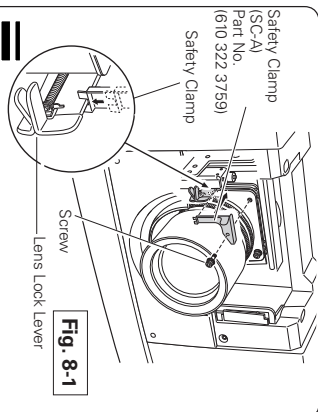

Fig. 8-1
- 1 Remove the screw holding the lens. (See Fig.8-1)